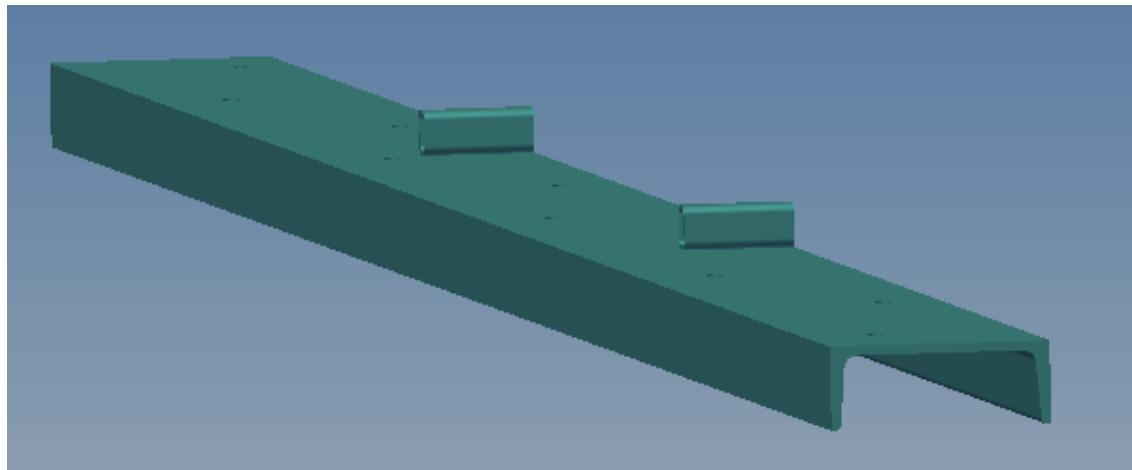

Fig. 7 Top chord incl. brace adapting bush (Excerpt)
- 3.2.9 The pillars adapting the sloped bracing (Fig. 7) have to be installed at the provided places according to the position plan and will be fixed at the ground plate by means of the delivered dowels. Simultaneously they have to be fixed by welding at the top chord on the description of the static calculation. Subsequently the sloped brace has to be installed as described in item 3.2.8 and then coupled at the tension rod of the foundation by using a connecting socket.